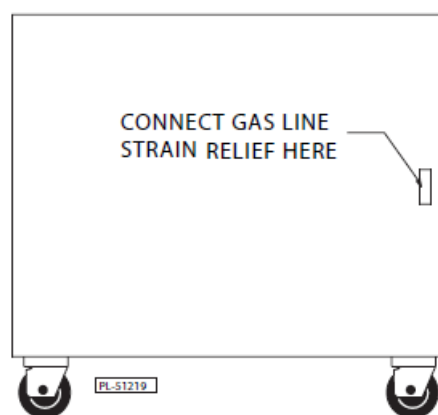

Fig. 1
- CSA 6.9. In addition, adequate means must be provided to limit movement of the appliance without depending on the connector and the quick-disconnect device or its associated piping to limit appliance movement. Attach the restraining device at the rear of the range as shown in Fig. 1.